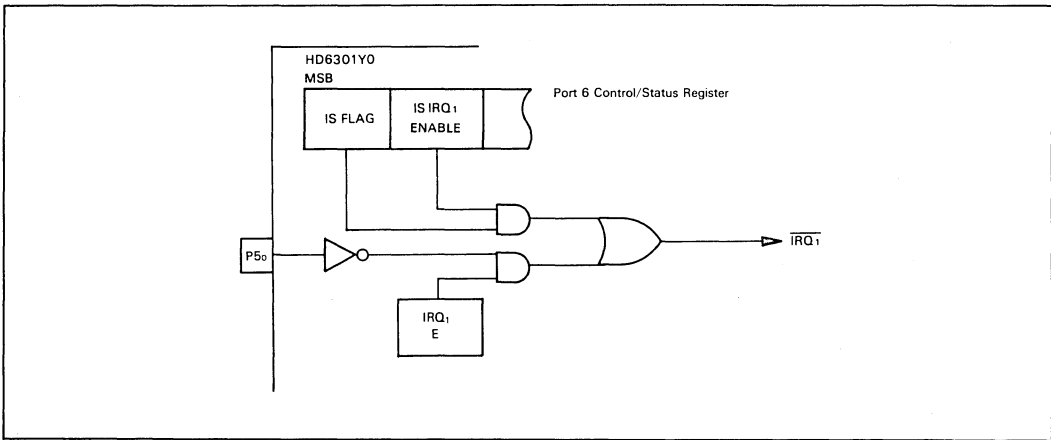

Figure 2-24. Input Strobe Interrupt Block Diagram
- When IS FLAG is set by the falling edge of IS, an interrupt occurs (figure 2-24).